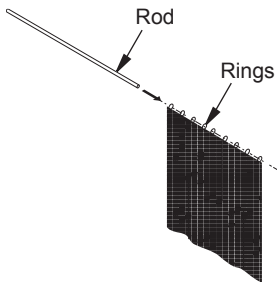

Figure 12 - Assembling Rod and Screen
1. Insert rod through small rings located at top of screen (see Figure 12).